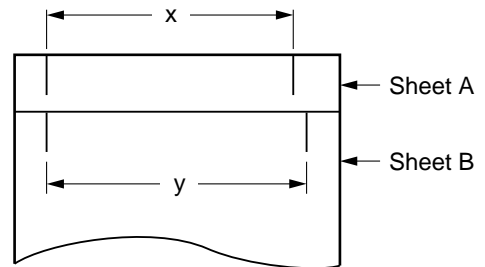

Figure 3-406
- 4) Put the left lines on sheet A and sheet B together, and adjust the position of the No. 1 mirror mount so that x and y in Figure 3-406 are identical.